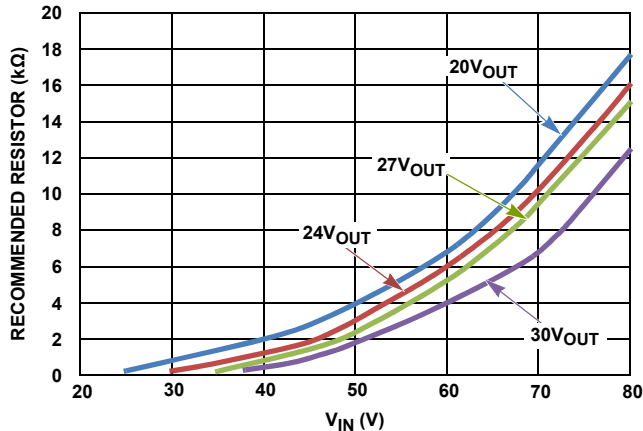
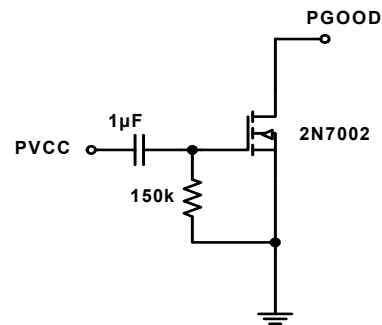

FIGURE 23. RECOMMENDED EXTERNAL RESISTOR VALUE FROM BOOT TO PVIN
FIGURE 25. PGOOD DELAY CIRCUIT
The internal bootstrap diode connected to the PVCC pin provides charge for the internal bootstrap capacitor. For above $12V_{OUT}$ applications, a resistor connecting between BOOT pin and V_{IN} pin is recommended for certain conditions. Refer to Table 3. This resistor provides additional bootstrap charge introduced from V_{IN} , which can ensure the gate drive circuit functions properly at very light load. See Figure 23 for the recommended external resistor values at $20V_{OUT}$, $24V_{OUT}$, $27V_{OUT}$, and $30V_{OUT}$ conditions. A minimum 0.25W power rating is recommended for this resistor.
For $>12V_{OUT}$ applications where V_{IN} power-up/down (module self enable/disable) is required and PGOOD signal is utilized, a PGOOD delay circuit and a $1k\Omega$, 1W rating dummy load resistor are recommended. The PGOOD delay circuit is shown in Figure 25. Note when the dummy load resistor is used, the resistor between V_{IN} and BOOT (Figure 23) is no longer required. During V_{IN} power-up (module self enable) for $>12V_{OUT}$ applications at very light load current, without such a delay circuit, V_{OUT} may have a drop after initially reaching the target due to the lack of bootstrap charge. With such a delay circuit, the PGOOD signal can be delayed for 250ms. For applications of $\leq 12V_{OUT}$, the PGOOD delay circuit is not required.
- Refer to Figure 23 for VIN-BOOT resistor (R_{BOOT}) value.